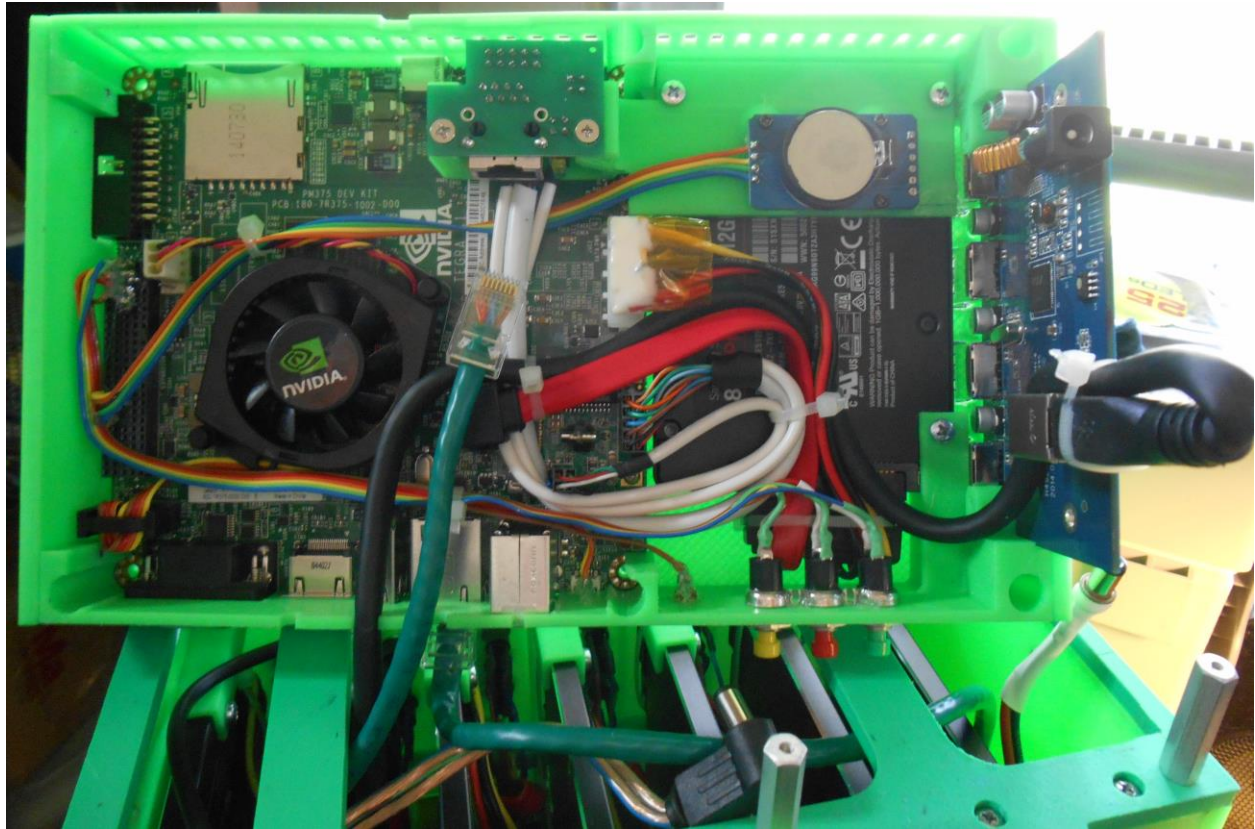

Figure 12. Node Zero
As you can see from Figure 12, Node Zero is just like Nodes 1 through 7, but more crowded. We have added the powered USB3 Hub (9.2.22) at right, a Gigabit Ethernet Mini-PCIE Module and its connector (9.2.24) at center, and a battery backed I2C Real-Time Clock Module (9.2.25) between them.
Notice that one section of the RTC-RJ45 Bracket is hollow. Remove this section with an Xacto knife. It was just there to support the bracket during printing. Removing it allows the RTC cable to run straight to the Jetson Expansion Connector (J3A1). See Figure 12.
- Plug the short USB3 cable we ordered (9.2.23) into the USB3 Hub. Bend it back on itself and secure with a cable tie. (See Figure 12). Plug the other end of the cable into the USB3 socket of the Jetson-TK1. Route the cable through the notch provided for it in Node Zero Back Plate.